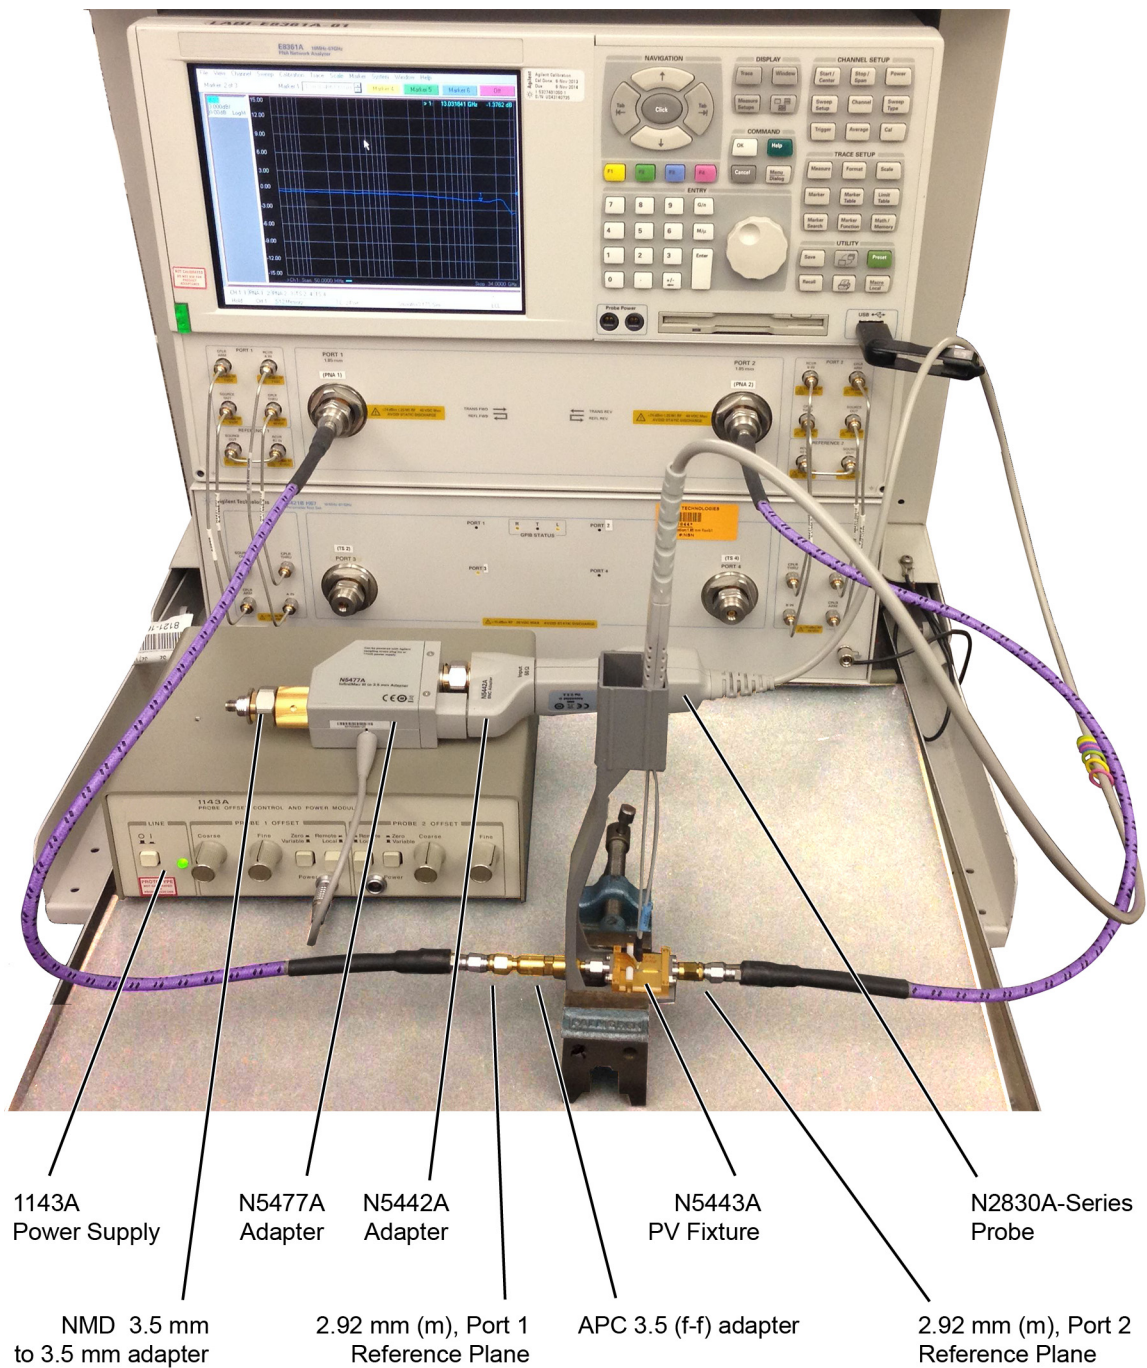

Figure 93 Test Setup for Measuring V_{in} of Probe
- 3 Connect the APC 3.5 (f-f) adapter, provided with the N5443A PV fixture, to the N5443A, as shown in Figure 93 on page 120. Use a small bench vise to steady the N5443A PV fixture on the test surface.